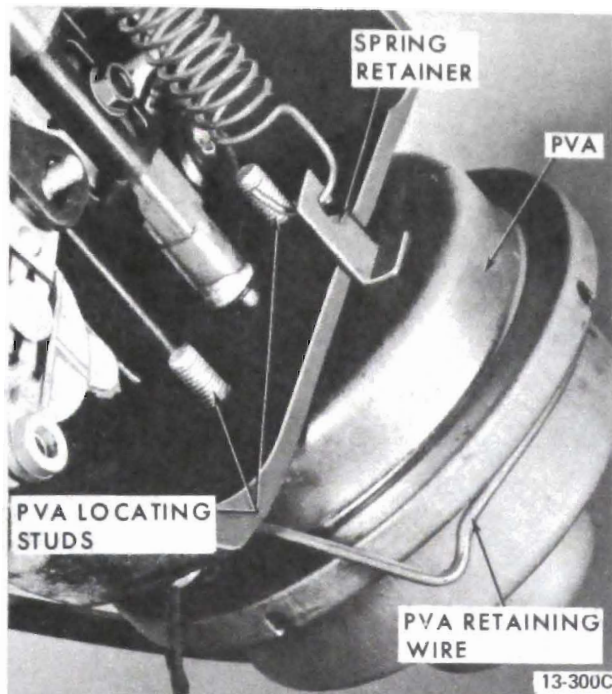
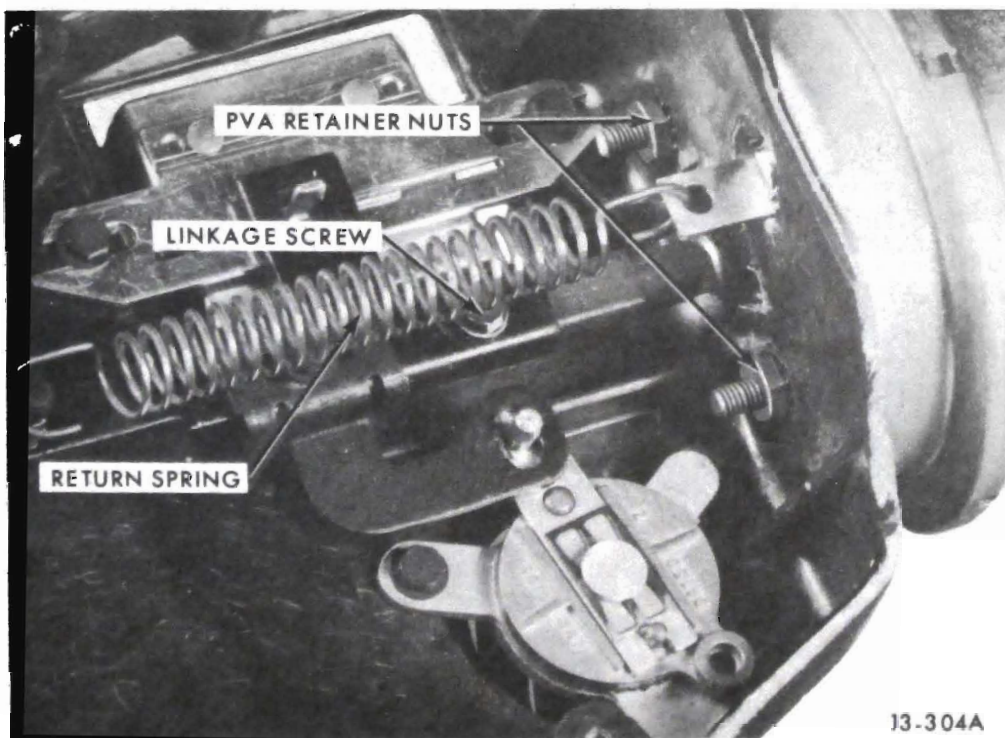

Figure 13-204 - 45-46-48-000 Series PVA Installation
Figure 13-205 - 49000 Series PVA Installation
3. Disconnect brown vacuum hose from regulated vacuum port of TVR and plug end of hose. Disconnect source (black) hose from power side of PVA. See Figure 13-204 for 45-46-48000 Series. See Figure 13-205 for 49000 Series.